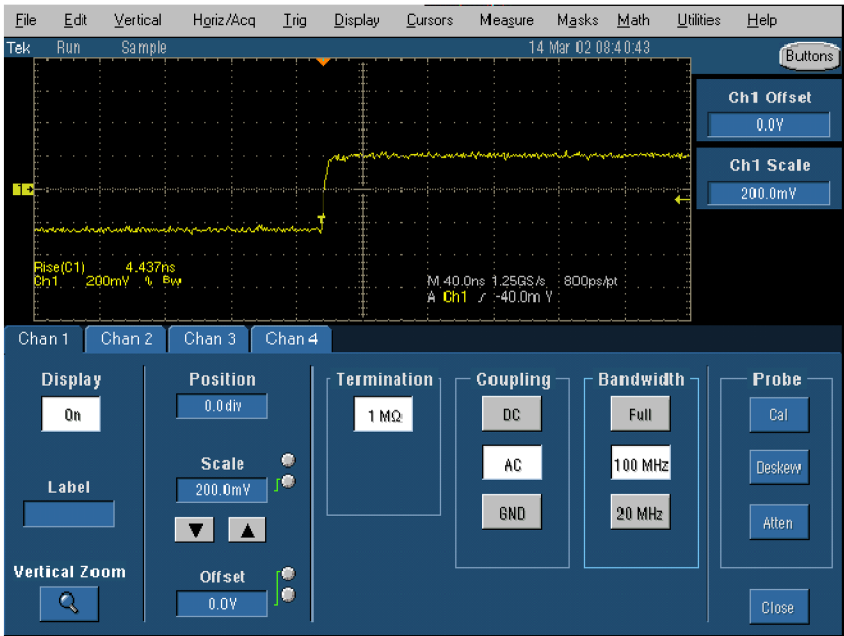

Figure 14: Typical waveform at 100 MHz bandwidth
7. Set bandwidth to 100 MHz. The resulting waveform should appear as shown. (See Figure 14.)